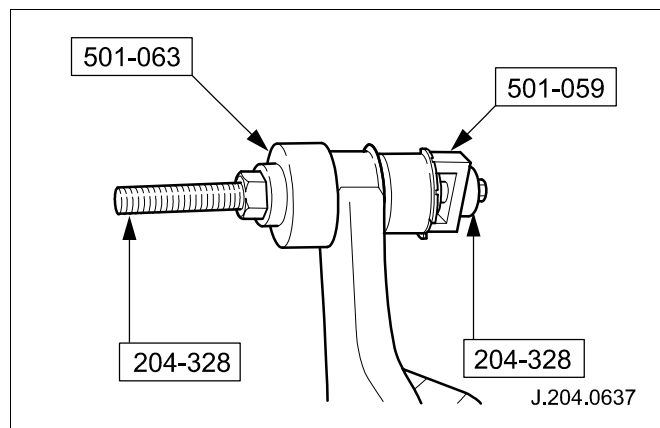

Fig. 3
- 42 Using special tools, install new rear suspension beam front bushings. (See Fig. 3 for tool numbers)